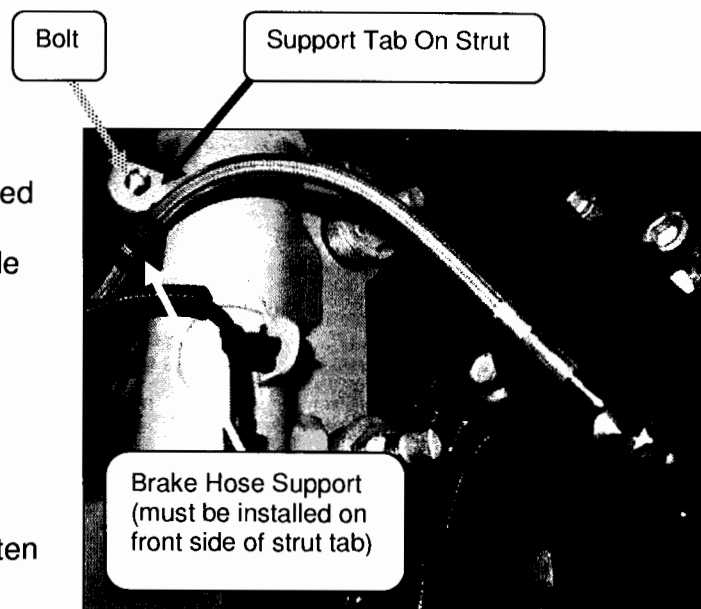

Figure 4
9. Secure the brake hose support to the tab on the strut with the provided 10mm bolt, making sure the hose support is installed on the front side of the strut tab (see Figure 4).